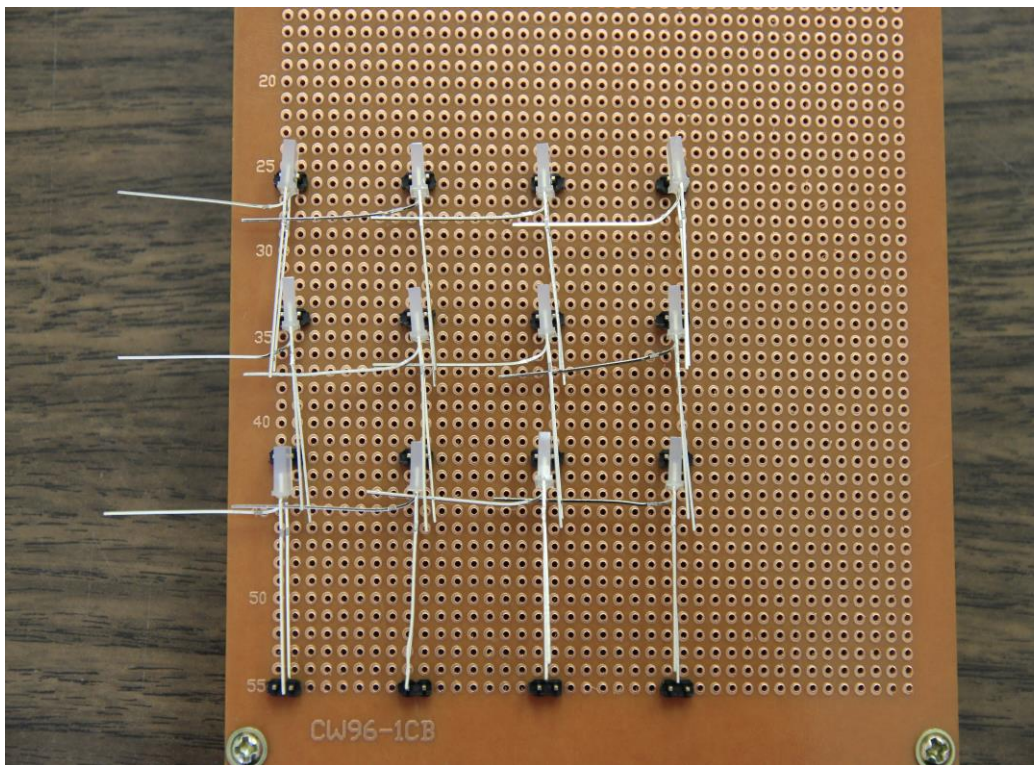

Figure 1: The arrangement of the LEDs on the perforated board
1. Begin by placing the female to male headers on the perforated brown board (See Figure 1).